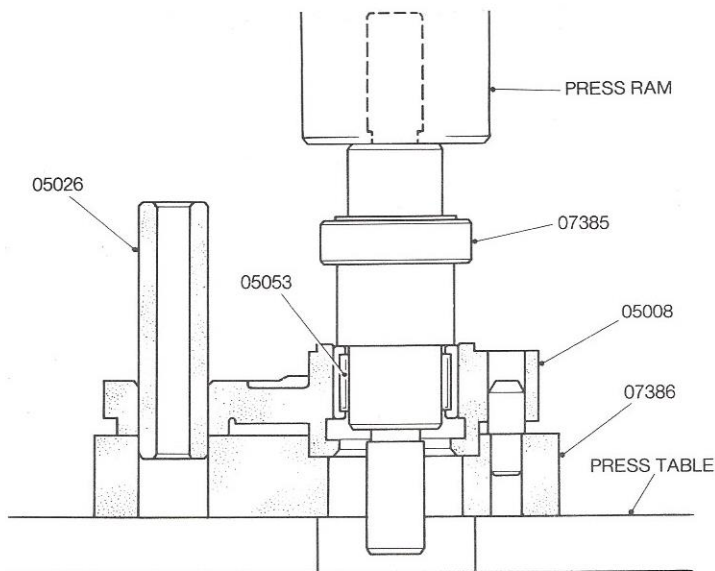

Figure 5 Removing the Layshaft Carrier Needle Roller Bearing
- 6.3.4 If the Needle Roller Bearing should need replacing then the Layshaft Carrier should be placed on the Dismantling Press Tool 07386 on the base of the press. Use the larger end of Dismantling Press Tool 07385 to push the Bearing out with the press. See Figure 5.